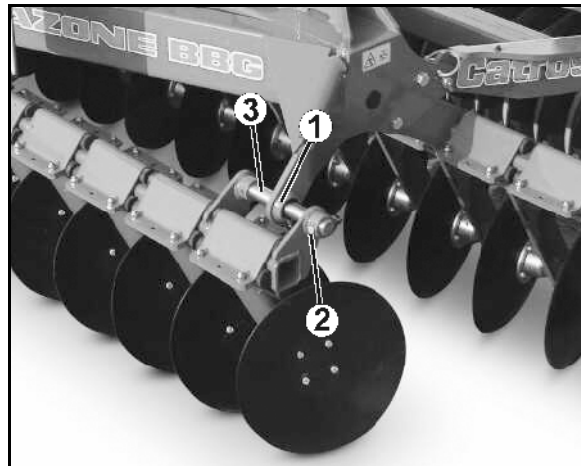

Fig. 36
To replace the slide bearings (Fig. 36/1), place the folded-out machine down so that the slide bearings are free from tension.
1. Release the screw union (Fig. 36/2) of the shifting shaft (Fig. 36/3).